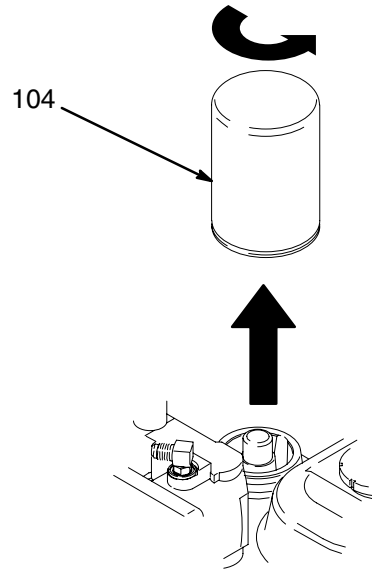

Fig. 8
1. Fig. 8. Place drip pan or rags under sprayer to catch hydraulic oil that drains out.
2. Remove drain plug (97). Allow hydraulic oil to drain.
3. Unscrew filter (104) slowly – oil runs into groove and drains out rear.